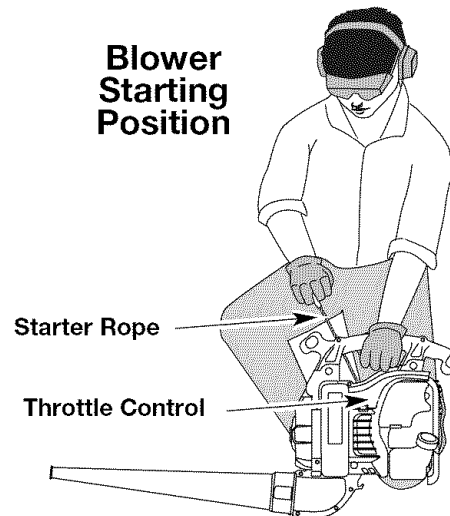
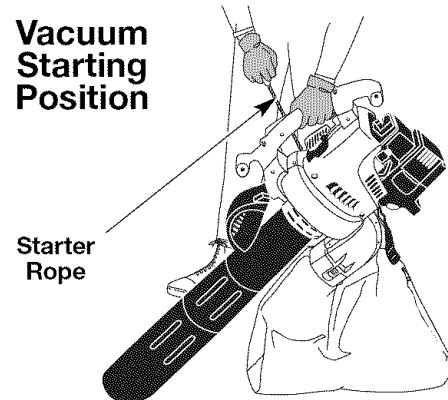

Fig. 15
Fig. 16
WARNING: Avoid accidental starting. Make sure you are in the starting position when pulling the starter rope (Fig. 15 or 16). To avoid serious injury, the operator and unit must be in a stable position while starting.
5. Crouch in the blower starting position (Fig. 15) or stand in the vacuum starting position (Fig. 16). Move the throttle control to the fast position (🐢) (Fig. 18). Pull the starter rope out with a smooth and steady motion 5 times.